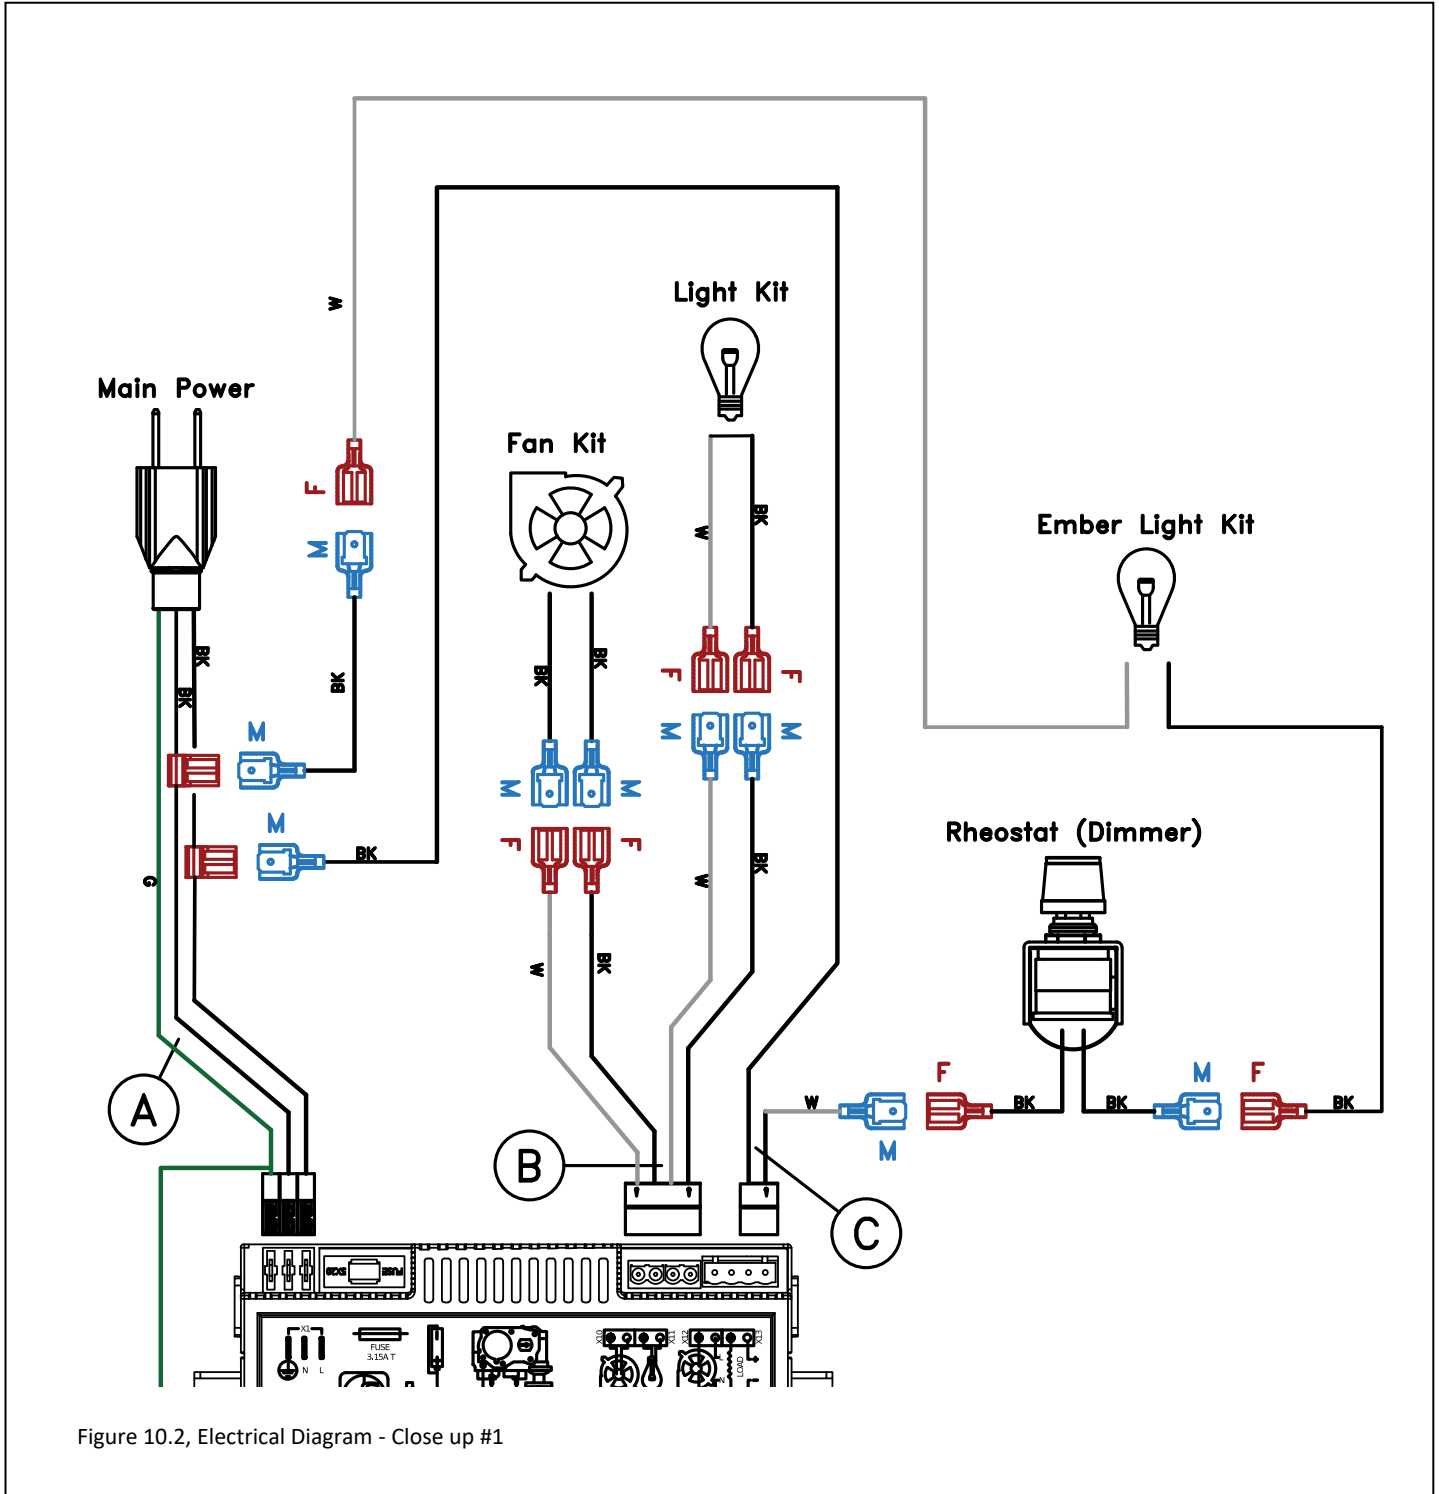

Figure 10.2, Electrical Diagram - Close up #1
- Figure 10.2 shows a close up of the wiring diagram. This figure shows the main power cord, fan kit, top light kit, and ember bed light kit.